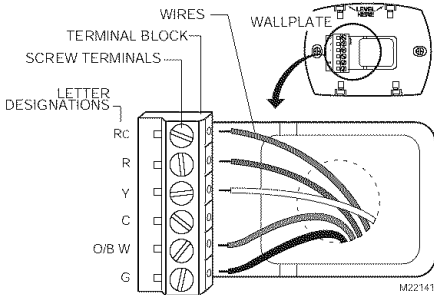

Fig. 4. Insert wires into terminal block.
1. Loosen the screw terminals that are used for the application. Insert the wires into the terminal block and tighten each screw terminal. See Fig. 4.